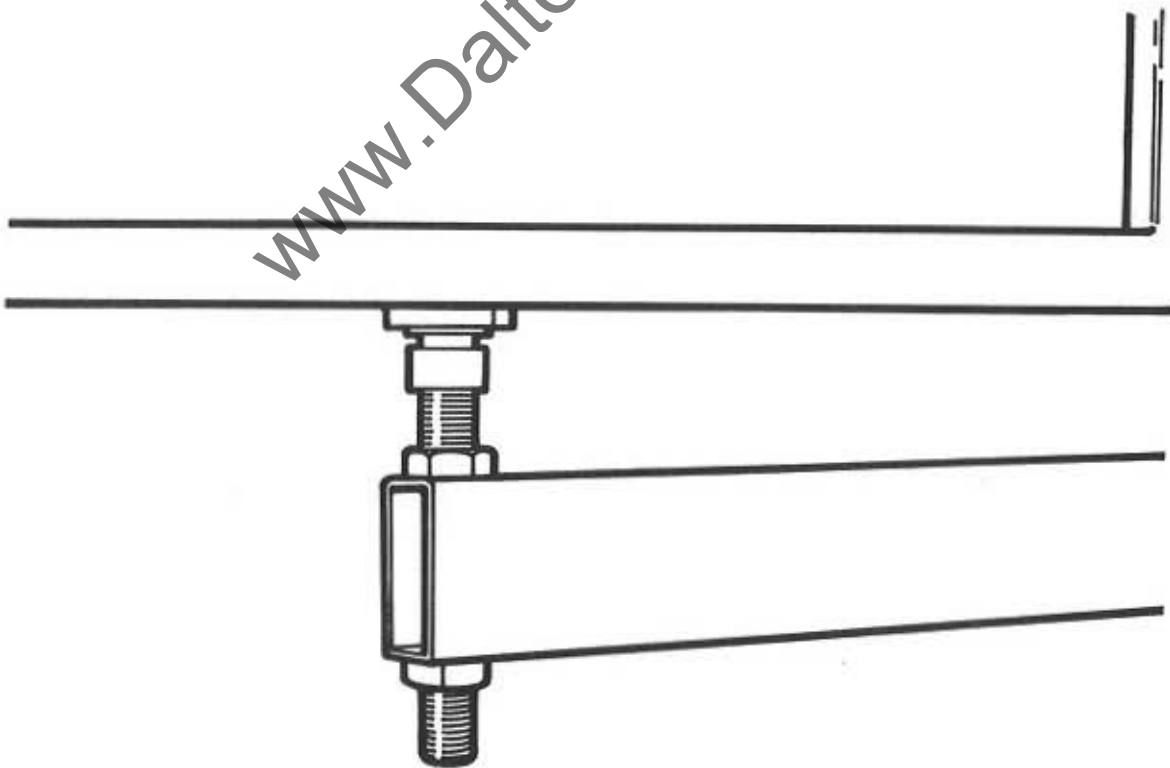

FIG 4
2. Support extension table and locate pin on pivot arm in central bush at outer end of extension table as shown in FIG 4.